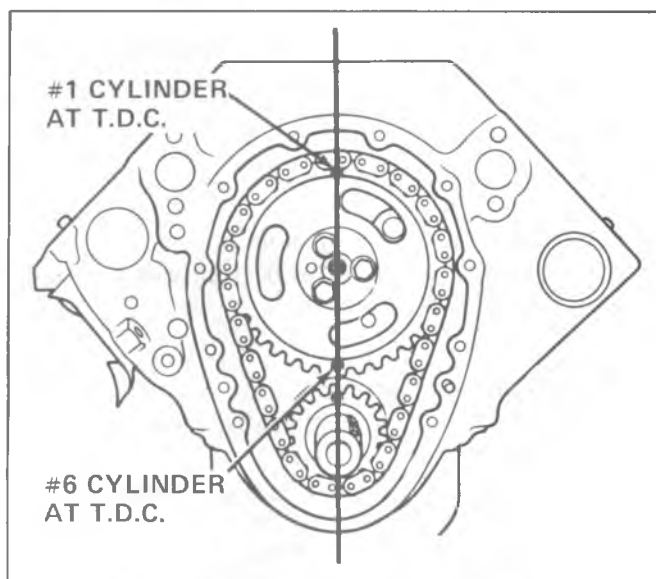

Fig. 6A5-37--Timing Sprocket Alignment Marks
2. Install timing chain on camshaft sprocket. Hold the sprocket vertically with the chain hanging down and align marks on camshaft and crankshaft sprockets. (Refer to fig. 6A5-37).